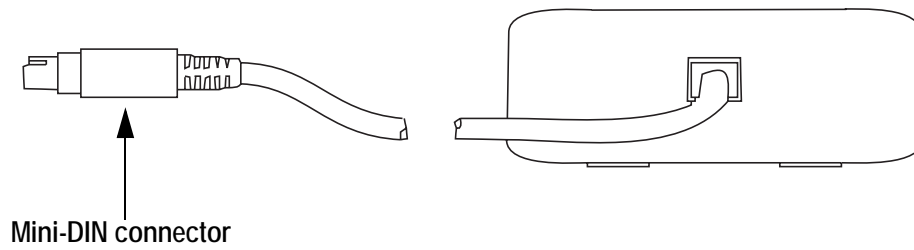

Figure 2-5 Power Supply Unit - Back View
3. Insert the PSU mini-DIN connector (See Figure 2-5 on page 8) into the 8-pin power supply port on the ODAU II.